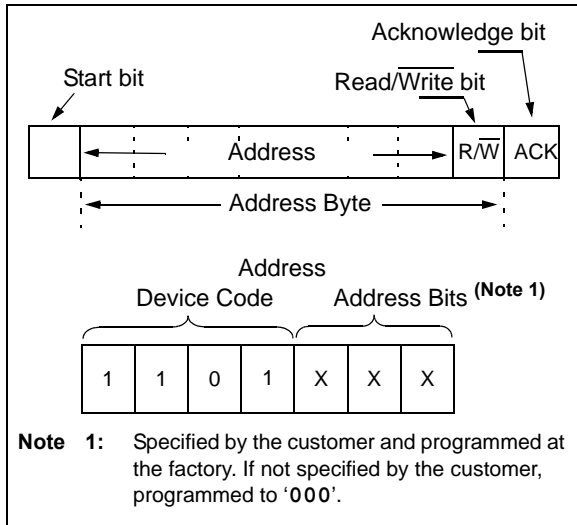
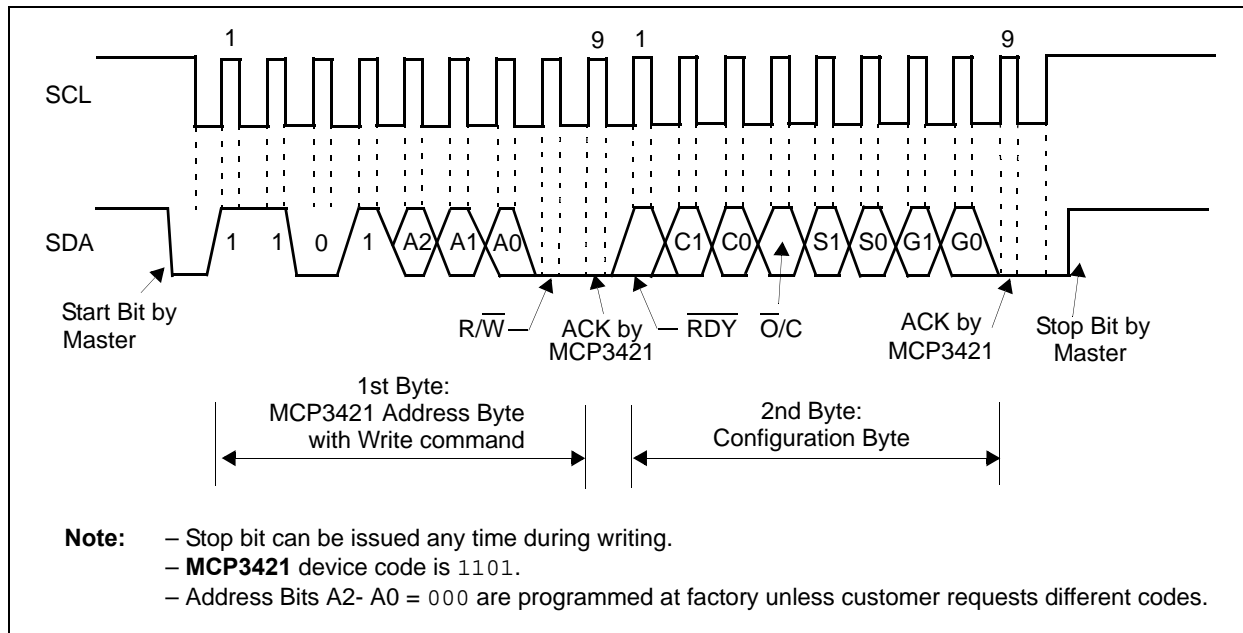

FIGURE 5-1: MCP3421 Address Byte.
FIGURE 5-2: Timing Diagram For Writing To The MCP3421.
The user operates the device by setting up the device configuration register using a write command (see Figure 5-2) and reads the conversion data using a read command (see Figure 5-3 and Figure 5-4). The device operates in two modes: (a) Continuous Conversion Mode or (b) One-Shot Conversion Mode (single conversion). This mode selection is made by setting the $\overline{O/C}$ bit in the Configuration Register. Refer to Section 5.2 “Configuration Register” for more information.
Figure 5-1 shows the address byte. Figure 5-2 through Figure 5-4 show how to write the configuration register bits and read the conversion results.
- See Figure 5-1 for details in Address Byte.